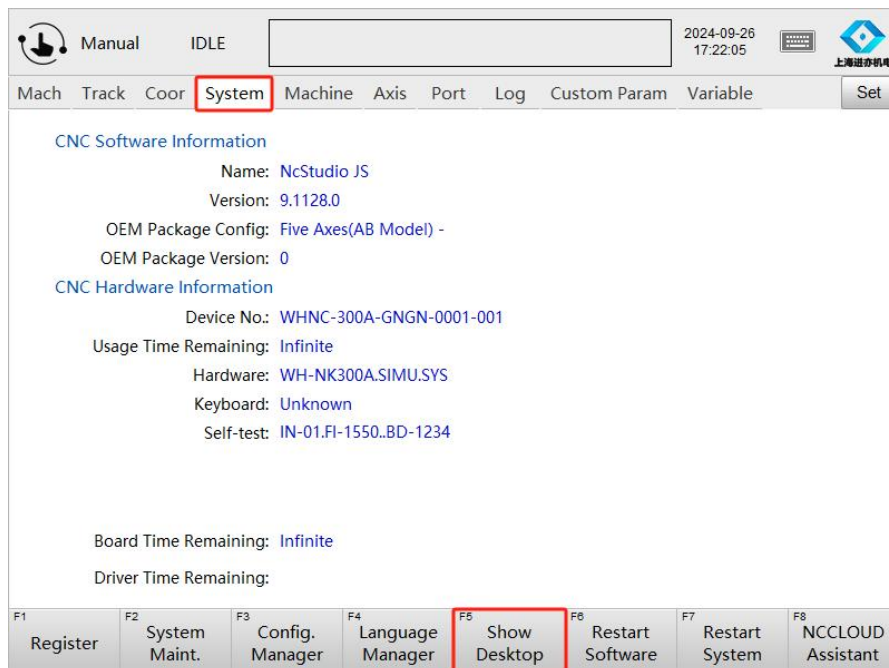

Figure 7.2.3 Show Desktop
(3) Enter the manufacturer interface, as shown in Figure 7.2.3. Click on "System Information," then click "Show Desktop."